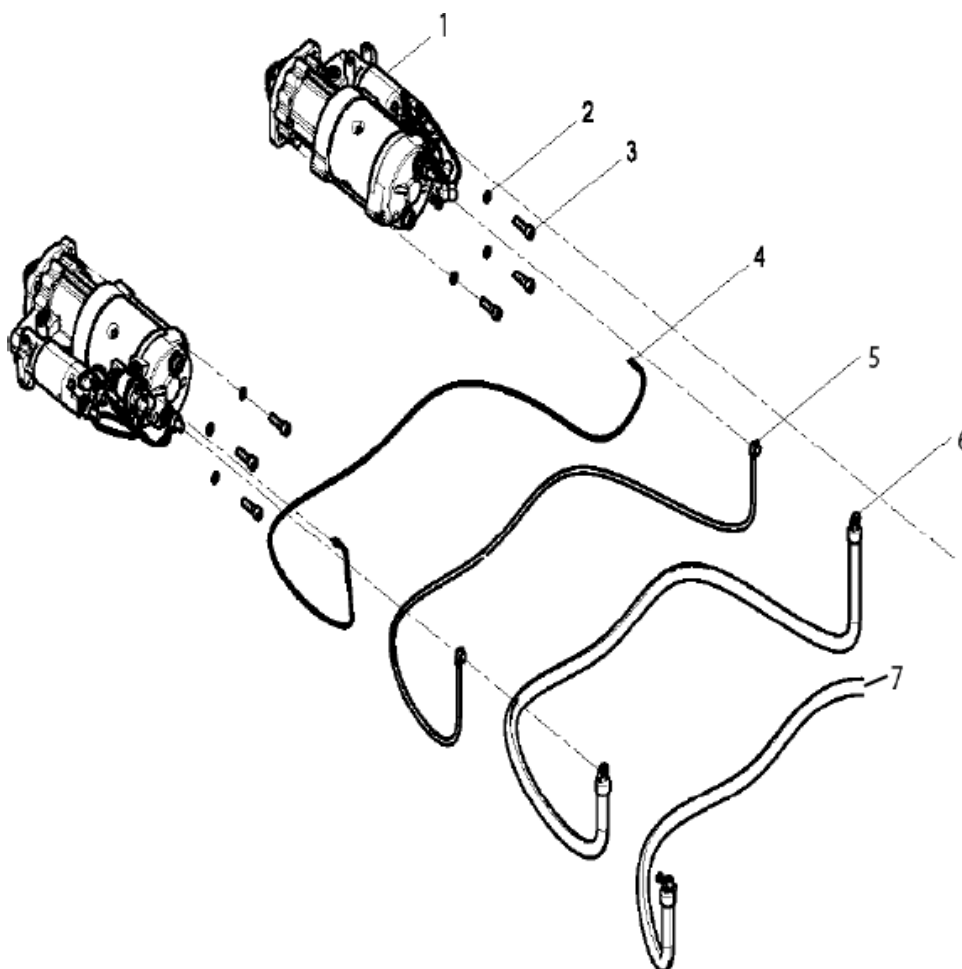

Figure 171. Starter Motor Assembly
1. Loosen and remove the starter wires (Figure 171, Items 4-7).
2. With a 16mm wrench remove the bolts and washers (Figure 171, Item 3 & 2).
3. Remove the starter (Figure 171, Item 1).
3. Insert and torque down the washer and bolts (Figure 171, Item 2 & 3).